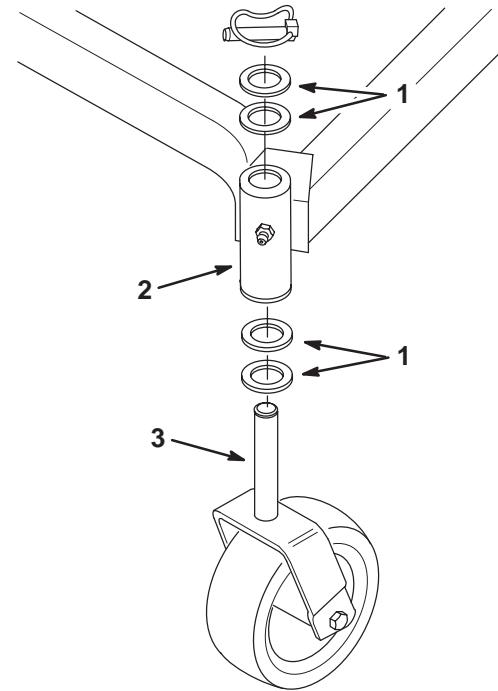

Figure 20
4. To change the front-to-rear pitch, move an equal number of thrust washers on both castor wheel forks. Move the thrust washers from the top of the carrier frame mounting tube to the bottom to raise the front of the mower. Move the thrust washers from the bottom of the mounting tube to the top to lower the front of the mower (Fig. 20).
- To change the side-to-side leveling, move the thrust washers on one castor wheel fork only. Move the thrust washers from the top of the carrier frame mounting tube to the bottom to raise the corresponding side of the mower. Move the thrust washers from the bottom of the mounting tube to the top to lower the corresponding side of the mower. (Fig. 20).